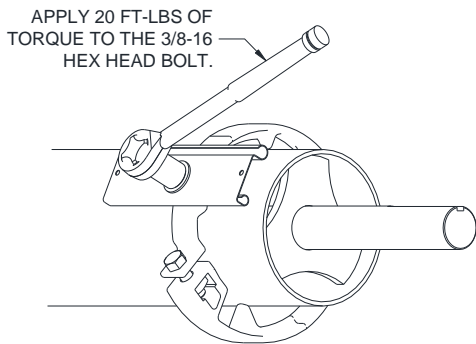

Figure 8.1 - UL-10 Fastening Section Attachment
7. Uncoil the curtain enough for the fastening sections to reach the attachment points on the shaft. Fasten them by aligning the fastening section with the hole in the ring or shaft respectively, and fasten using the provided hardware (see **Figures 8.1 and 8.2**). If the curtain is too heavy to uncoil by hand, use the method described in the following step to get the fastening sections in position.